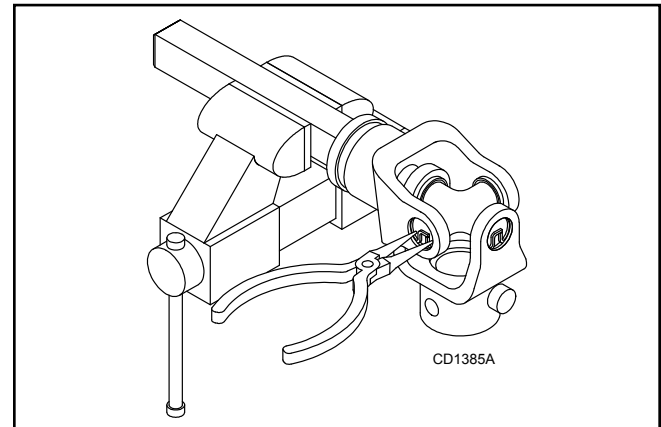

Figure 18.
1. Remove external snap rings from yokes in four locations as shown in Figure 18.